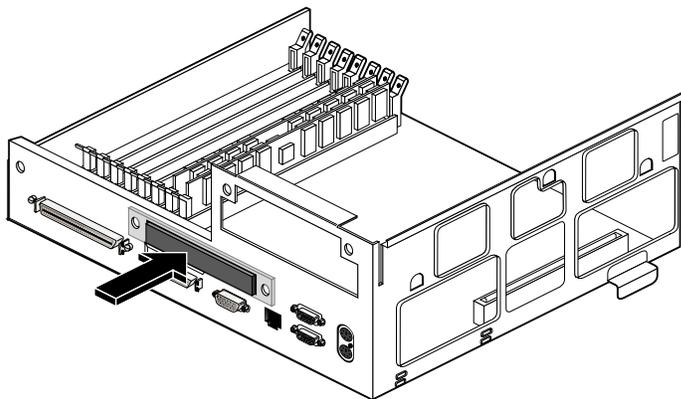

Figure 1-11 Removing the Filler Panel: O2 R10000 Class Workstation
2. Remove the filler panel covering the opening for the adapter board’s external connector. It should pop out when you push on it (Figure 1-11).